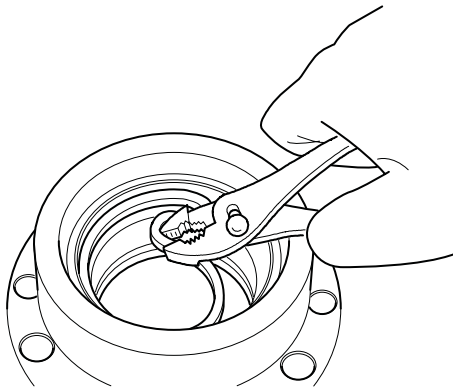

Fig 90.
- 5 Deform the u-packing ring into a loose curve with the u-packing holder and insert it into its fitting groove → Fig 90. (□ E-199). Fit the back up ring after fitting the u-packing ring.